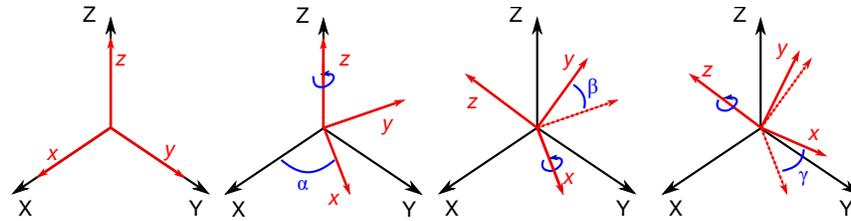

Figure 7-3. A rotation represented by Euler angles (α, β, γ) using $Z(\alpha)X(\beta)Z(\gamma)$ intrinsic rotations.
2. **Local Coordinate Systems.** It is possible to have the ICFD parts or ICFD_PART_VOLs rotate around the global reference frame but also to define and use a local reference frame by defining its point of origin and two of its vectors $\mathbf{v}_1 = (X1, Y1, Z1)$ and $\mathbf{v}_2 = (X2, Y2, Z2)$ (note that \mathbf{v}_1 and \mathbf{v}_2 should be orthogonal). The third vector is, then, in the direction of $\mathbf{v}_1 \times \mathbf{v}_2$. See Figure 7-3.